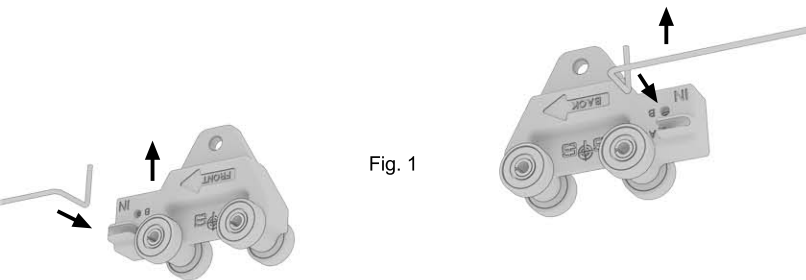

Fig. 1
**Step 3:** Attach each end of the Steel Cable to one of the rolling trucks (see Fig. 1 below). The cable will thread in, down, then tighten with Allen wrench.